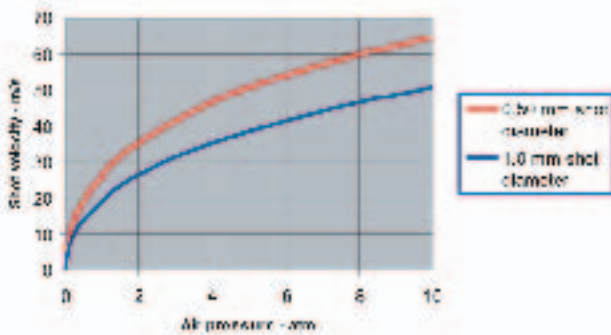

Fig.10 Curves of nozzle-induced shot velocity versus nozzle air pressure.
Fig.10 is an example of curves produced using equation (8).
Equation (8) was used to predict the variation of nozzle-induced shot velocity with air pressure for two shot sizes - as shown in fig.10. The advantage of pre-nozzle velocity increase for large shot becomes apparent. The equation can also be used to predict the effects of nozzle length and shot material (through change of shot density).